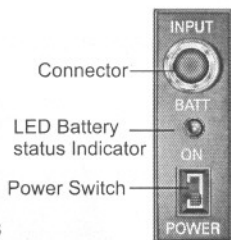

Fig. 7
4. Sliding the power switch of the transmitter control panel to "ON" position, as shown in Fig. 7, the battery status indicator gives a flash to indicate a normal operation. If there is no flash, it indicates either power supply is not available or battery is installed wrongly. If the indicator keeps lighting, it indicates that battery is weak, a replacement is necessary.
5. The pin arrangement of the transmitter's connector jack is shown in Fig. 6. A unique feature of the M-303 is its separate high / low impedance and bias with the same jack for ECM input. You could properly match the high impedance input signals such as electric guitar, or low impedance input signals such as dynamic microphone, then choose the proper input connecting cable and plug correctly, as shown in Fig. 7, 8, and 9.